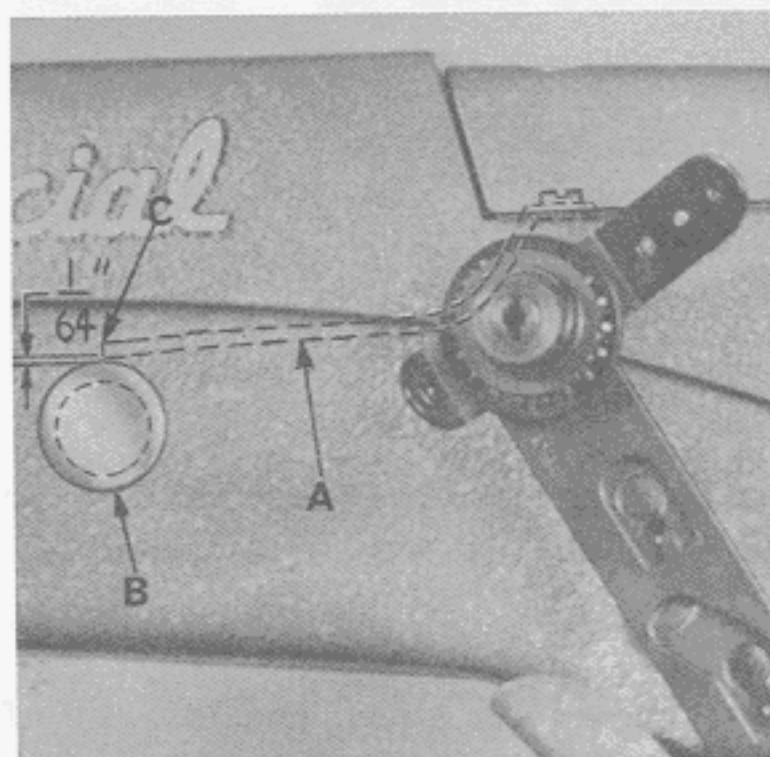

Fig. 3
Remove the head cover and upper crank chamber cover (G, Fig. 2). Check position of needle lever bearings oiler (A, Fig. 3) located inside the arm casting, below the upper crank chamber cover, which lubricates the needle lever stud (B). Make sure it is tilted downwardly and that its delivery end (C) contacts the inside wall of the bed casting at the back, just above the notch of the needle lever shaft stop collar. (Do not allow the oiler to rest on the needle lever.) Allow 1/64 inch clearance as in Figure 3.